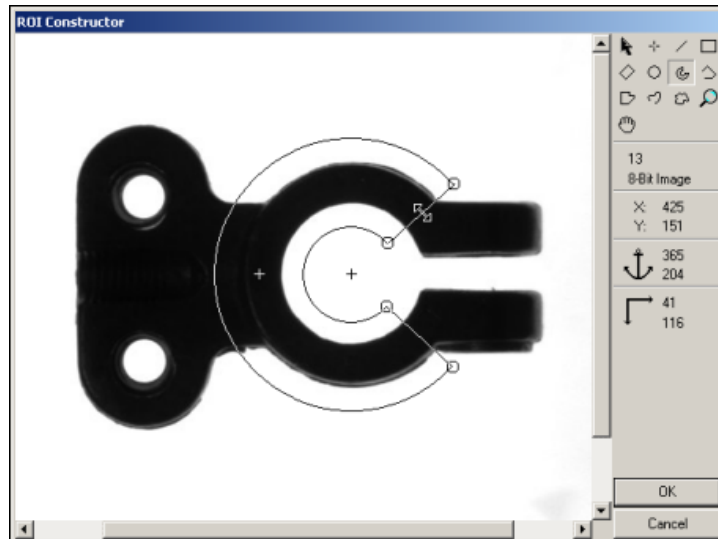

Figure 3-2. ROI Constructor
1. Use `imaqConstructROI2()` to display an image and the tools palette in an ROI constructor window, as shown in Figure 3-2.